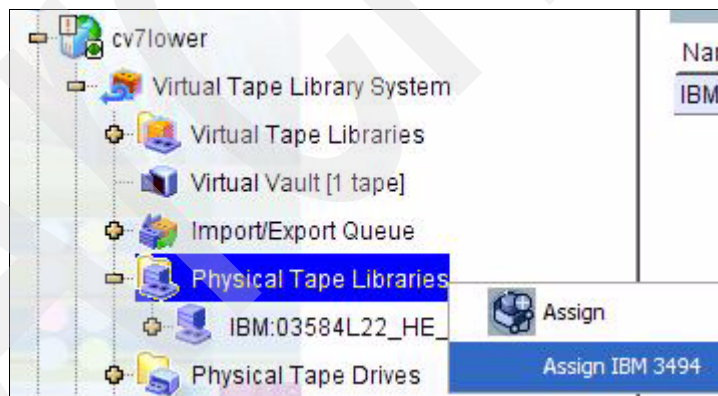

Figure 7-37 Assign IBM 3494
2. On the VE console, expand the server icon and then expand **Virtual Tape Library System**. Right-click **Physical Tape Libraries** and then click **Assign IBM 3494**. See Figure 7-37.